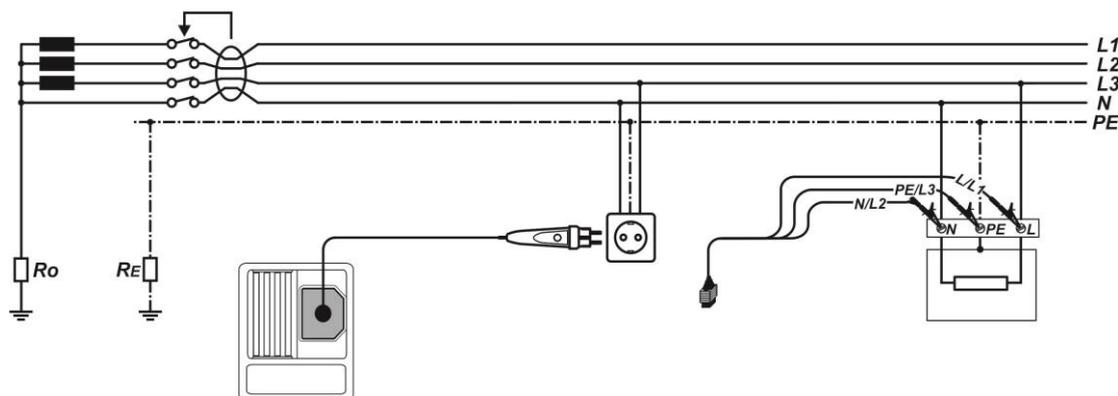

Figure 5.17: Connecting the plug commander and the 3-wire test lead
- ❑ **Connect** test leads to the item to be tested (see Figure 5.17).
- Connect** test leads to the item to be tested (see *Figure 5.17*).
- ❑ **Connect** test leads to the item to be tested (see *Figure 5.17*).
<ul style="list-style-type: none"> <input type="checkbox"/> Select the RCD function using the function selector switch. <input type="checkbox"/> Set sub-function to AUTO using UP / DOWN keys. <input type="checkbox"/> Set test parameters (if necessary). <input type="checkbox"/> Connect test cable to the instrument. <input type="checkbox"/> Connect test leads to the item to be tested (see Figure 5.17). <input type="checkbox"/> Press the TEST key to perform the test. 	Start of test